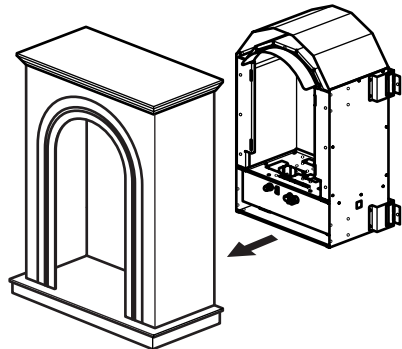

Figure 23 - Installing into Mantel
1. Carefully push the fireplace insert into the mantel from the back as shown in Figure 23.